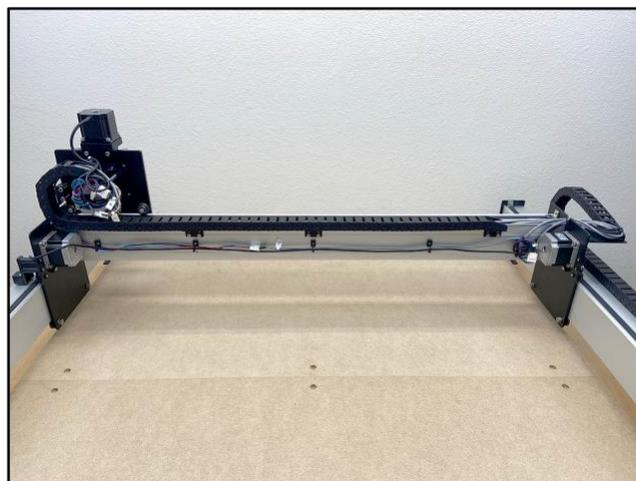

Figure 36
1. Install cable tie mounts to the back of the X-rail. See **Fig. 36**.
- c. Install the five (5) mounts to the upper five M4 threaded screw holes along the middle of the rail.
- d. Use a 3mm hex key and one (1) M4×6mm BHCS to secure each mount.
2. Tidy up the cables along the rear of the X-rail. See **Fig. 36**.